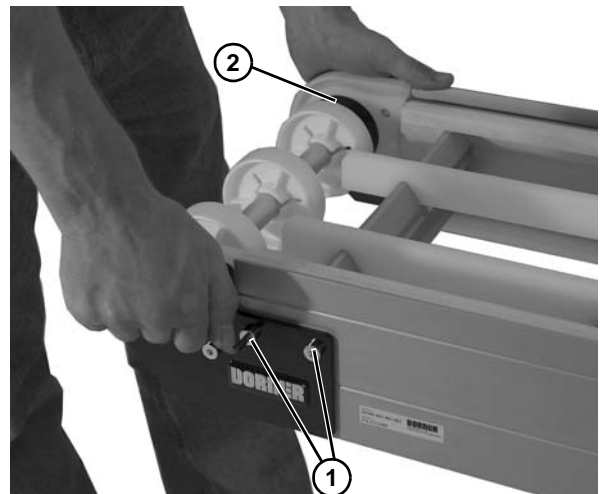

Figure 66
2. On one side of conveyor, remove the two socket head screws (**Figure 66, item 1**).